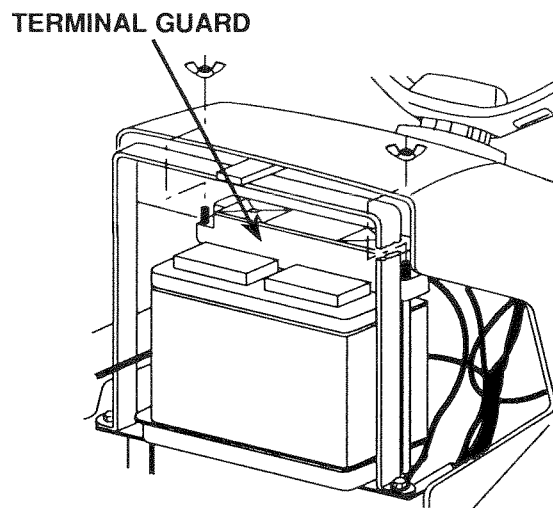

FIGURE 20
- a. Remove Terminal guard (Fig. 20).